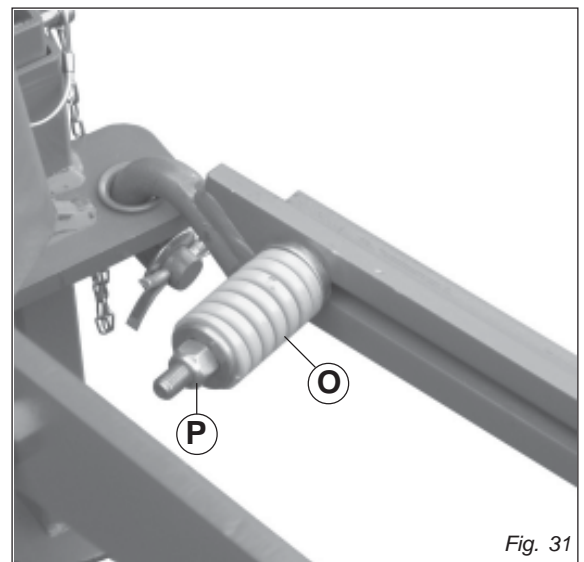

Fig. 31
- The sickle bar is fitted with a safety device for protection against obstacles. If this device is tripped by impact with an obstacle, stop the tractor without raising the cutting arm. Check that the cardan shaft has not become separated, if so, reassemble it. **Position the safety tie rod parallel to the ground, and reverse the tractor until the safety tie rod hooks up again.** If the tie rod releases easily, adjust spring (O, Fig. 31) using nut (P, Fig. 31) which should be tightened half turn at a time.